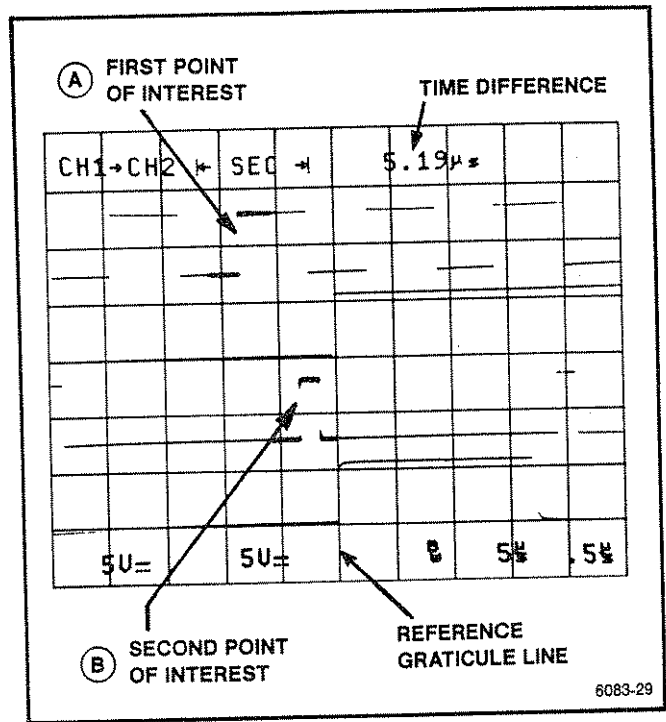

Figure 6-15. Time difference using ΔTIME with two delays.
6. Using the center horizontal graticule line as a reference point, set the reference delay to align the point of interest to be measured (point A in Figure 6-15) from that reference point with the I- OR DELAY control. Set the Δ delay to align the second point of interest, displayed in the second B Sweep (point B in Figure 6-15), to the reference point using the -I OR Δ control. The measured